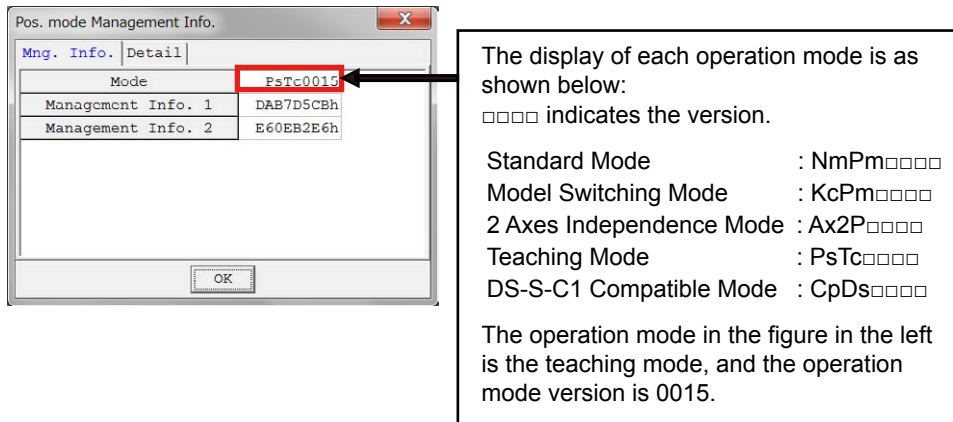

Fig. 1: Positioner Mode Administration Information Window
- \*1: To check the teach mode operation mode version, after starting up in the teaching mode, check in Operation Mode in Positioner Mode Administration Information window (Fig. 1). Positioner Mode Administration Information window is displayed by selecting Controller (C) → Positioner Mode Administration Information (M) in the main window of the PC software.